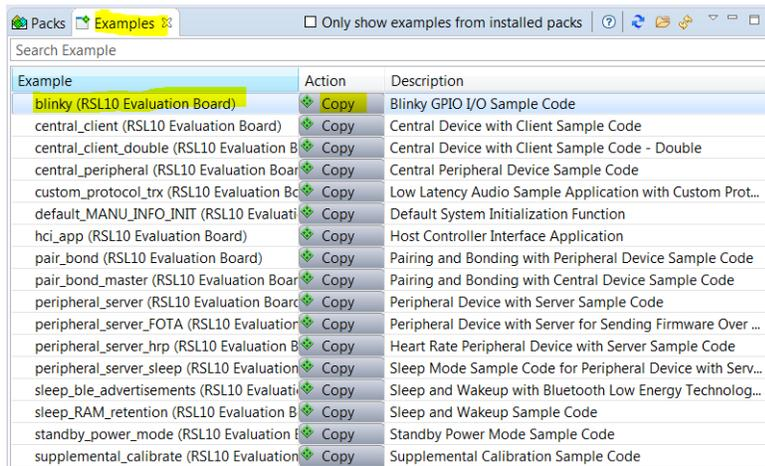

Figure 11. Pack Manager Perspective: Examples Tab
- Choose the example project called *blink*, and click the **Copy** button to import it into your workspace (see Figure 11 on page 14).